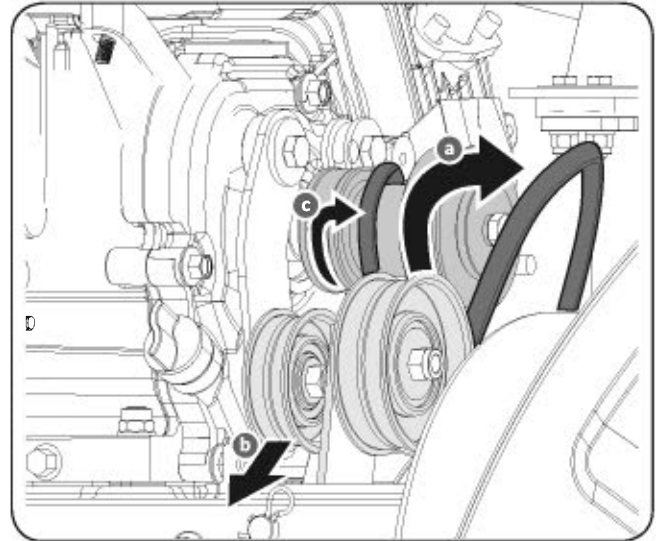

Figure 21a
- Pivot the idler pulley toward the right to relieve tension. (See **Figure 21a**)
- Lift the drive belt off engine pulley. (See **Figure 21a**)